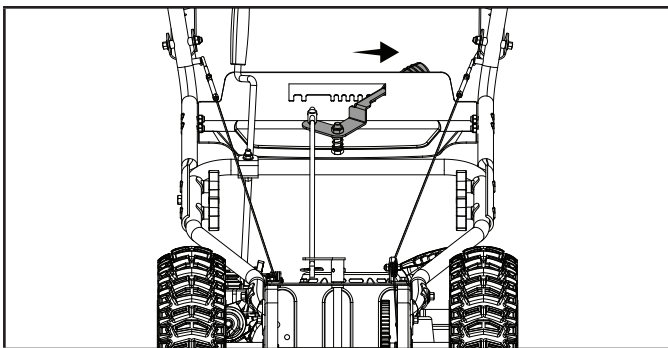
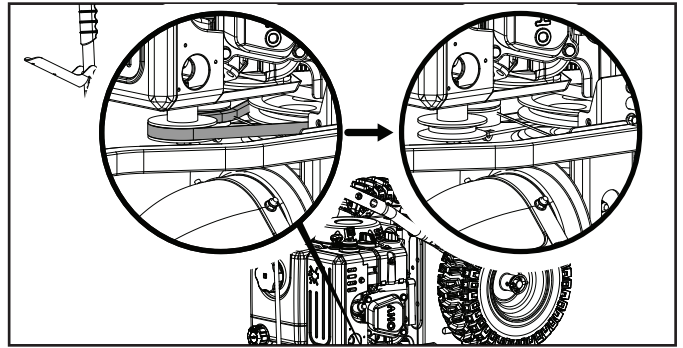

Figure 26A
Figure 26B
- Slide the speed adjusting handle to the right (Fig. 26A) and remove the loose belt by cutting it or any remaining belt pieces if the belt has already broken (Fig. 26B). If cutting the belt be careful of the tensioning pulley and arm as they are spring loaded and could cause injury when the belt is cut.